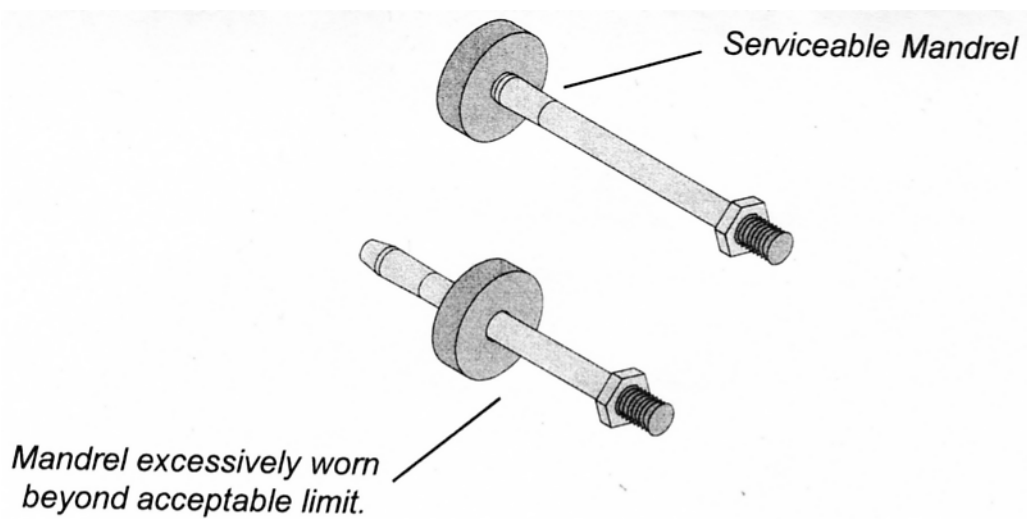

Figure 4-7
11. Select the proper mandrel and check the major diameter for wear by inserting the mandrel into a mandrel gage. If the mandrel can pass through the gage, it is excessively worn and must be discarded (Figure 4-7).